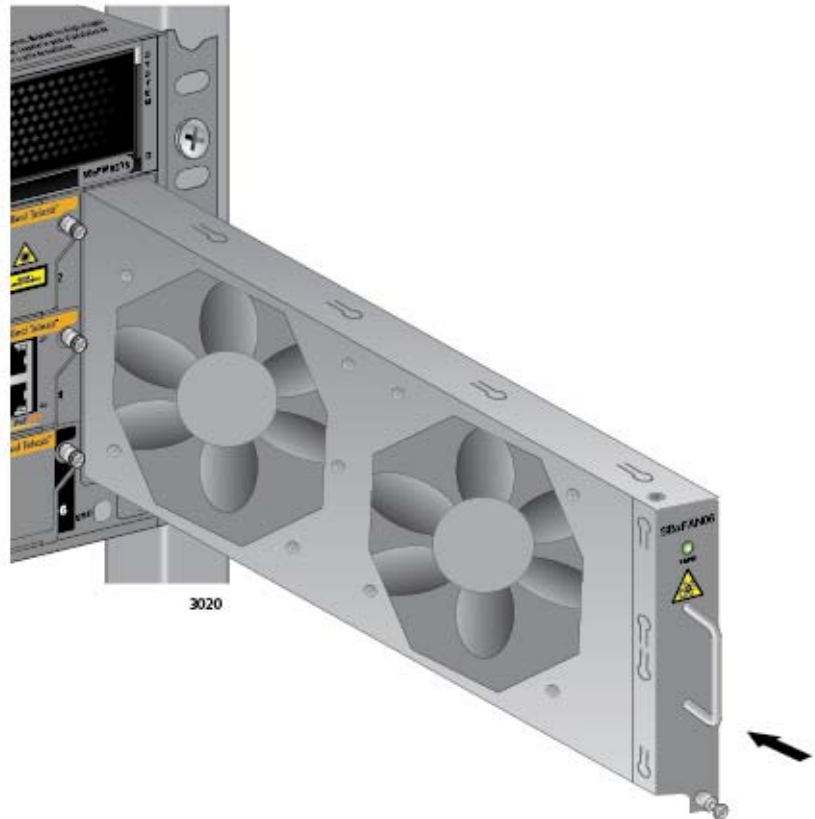

Figure 175. Installing a New AT-SBxFAN06 Fan Module
1. Orient the new module with the LED and module name on top and carefully slide the module into the slot in the chassis. Refer to Figure 175 on page 269.